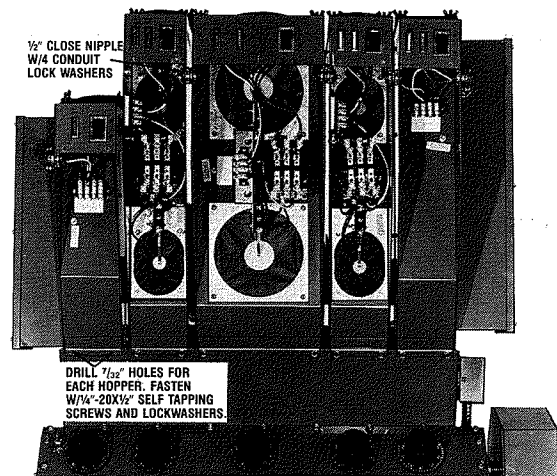

FIGURE 5
2. Place control hopper(s) over metering chamber(s). When two or more hoppers are mounted next to one another, use  $1/2''$  close nipples and four (4)  $1/2''$  conduit lock nuts with each nipple to provide protection for electrical wires, Figure 5.